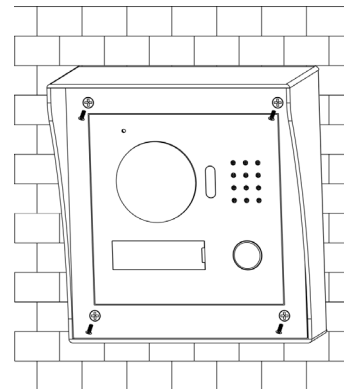

Figure 2
- Align the device on metal bracket according to screw hole. At spot 2 fasten screw (M3×8 Cross recessed countersunk head tail machine screws--- galvanizing white), and fix device on metal bracket. See Figure 2